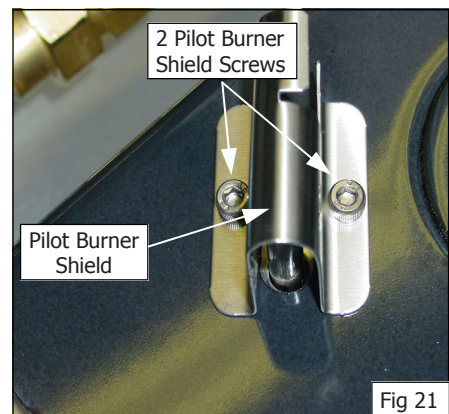

Fig 21
5. Remove the pilot burner shields from over the pilot burners / thermocouples by removing the 2 screws securing the pilot burner shields to the splash guards. (Refer to Fig 21).
- Refit the pilot burner tube shields over the pilot burner tubes / thermocouples and secure in place with the 2 securing screws. (Refer to Fig 21).